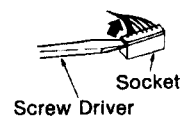

Fig. 11
* 1. Remove socket in the direction of arrow as shown in fig. 11.